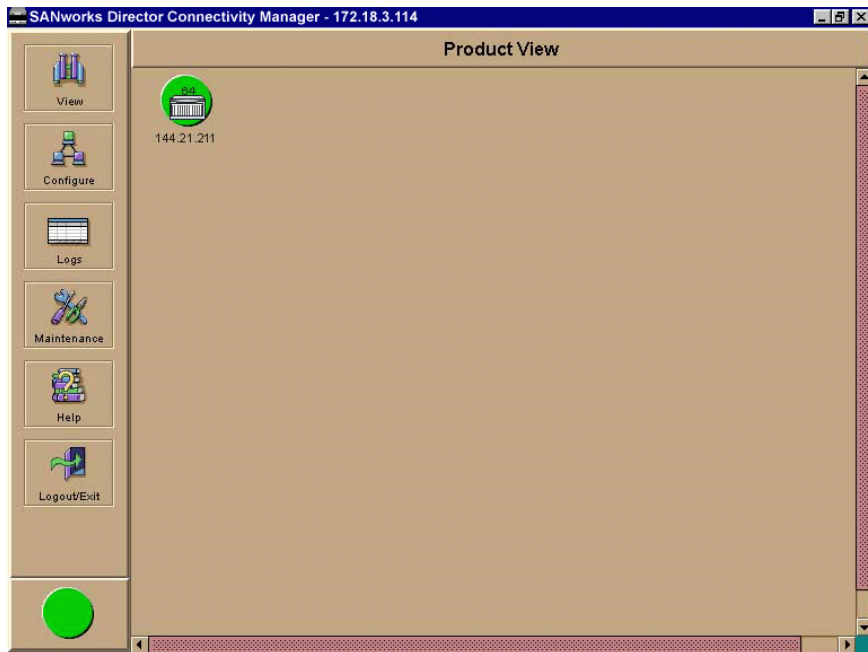

Figure 2-1: Product View
6. At the SDCM application Login dialog box, type a user name, password, and SDCM server name (obtained in step 1, and all are case sensitive), and click Login. The application opens and the Product View (Figure 2-1) displays.